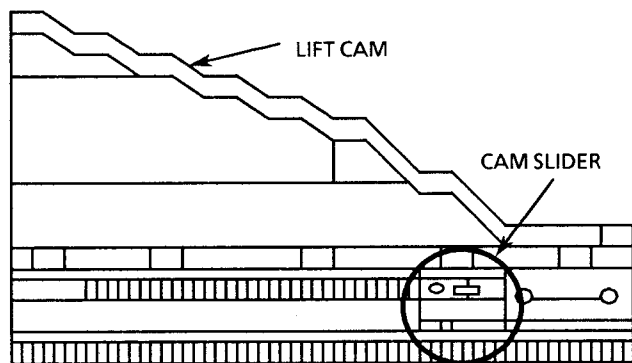

Fig.7
※ The LIFT CAM can be released, After removing the LIFTER UNIT Ass'y (Fig.7)
- 1) When installing the lift cam, Put the cam slider to the position shown in fig 7.